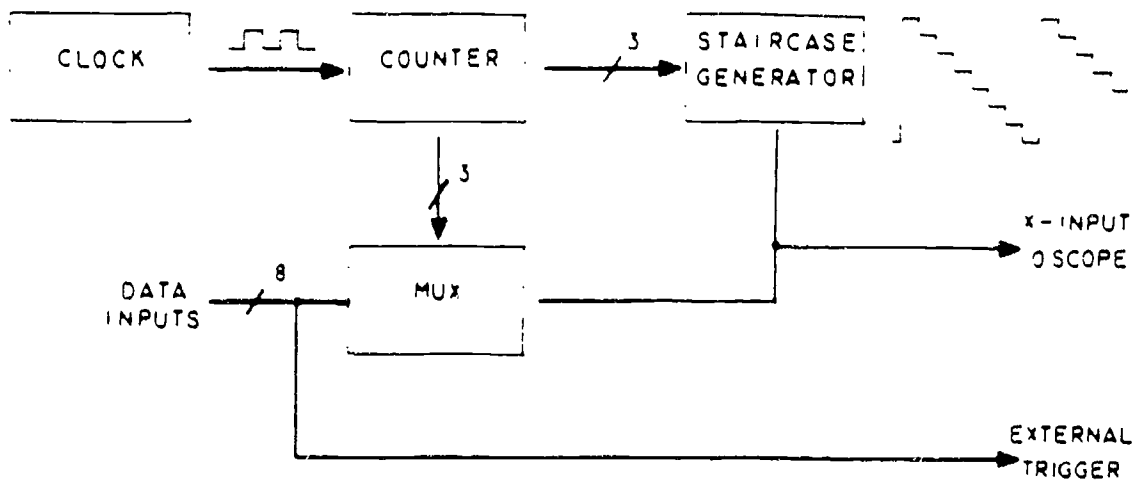

Figure 1
- B) The output of the staircase generator shall be eight separate steps as shown in Figure 1.